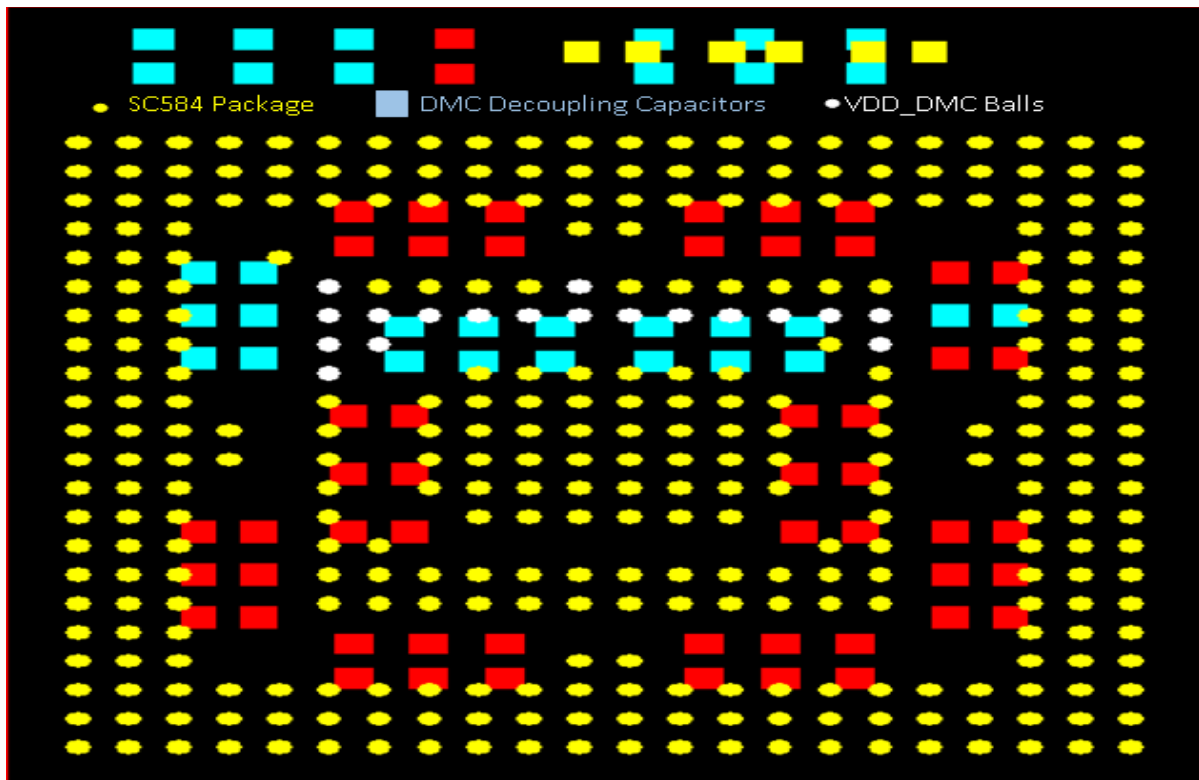

Figure 10. Sample VDD_DMC Decoupling Capacitor Placement for the ADSP-SC584 Device
- Place the decoupling capacitors for the VDD_DMC power rail as close as possible to the pin. This is very important, as DDR signal slew rates are really aggressive, so having these capacitors closer to the pin is a must (Figure 10).